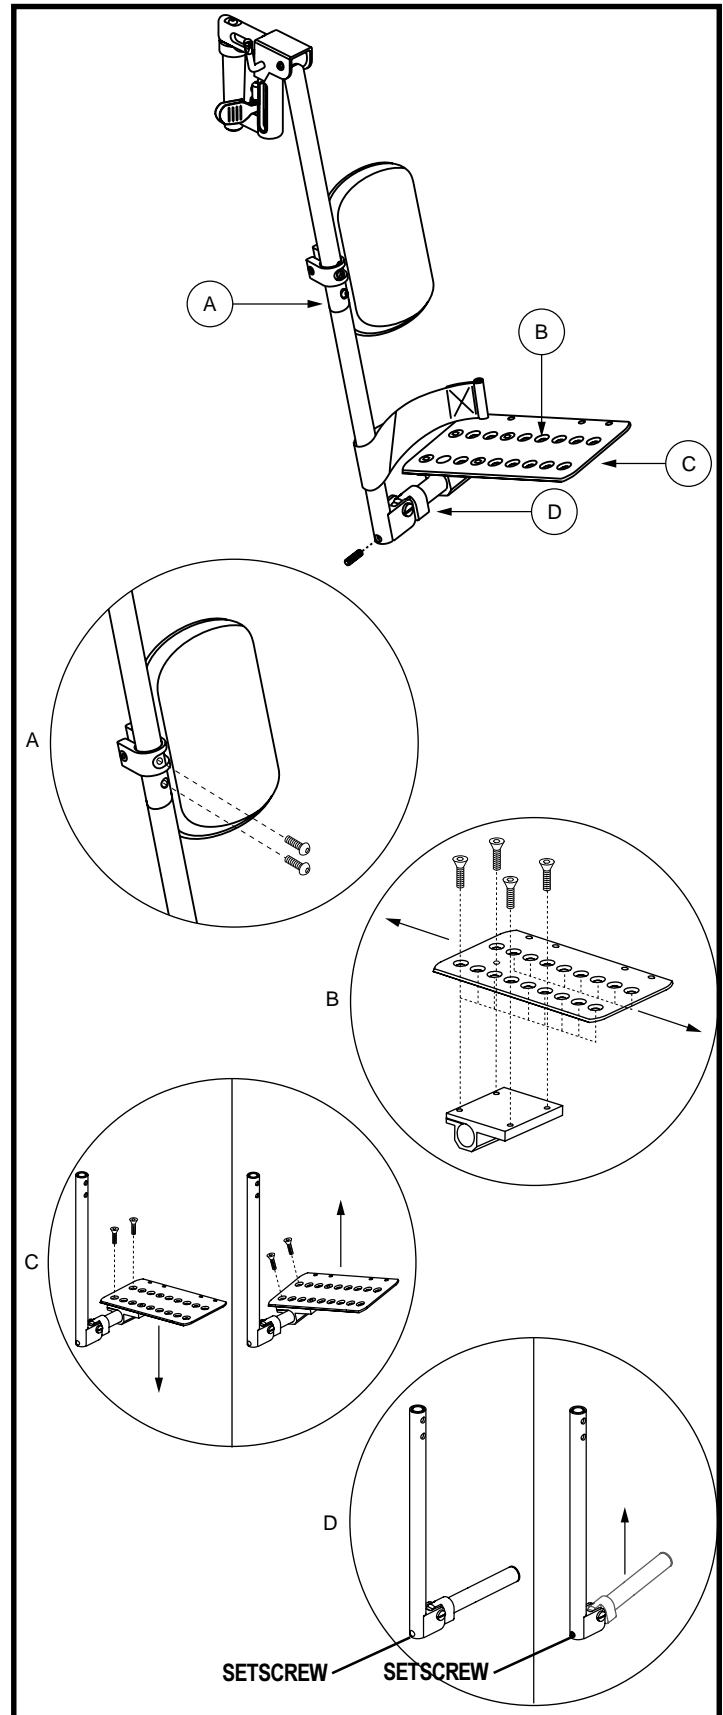

Figure 20. Multi-Axis Foot Plate
The multi-axis foot plate assembly can be installed on either a swing-away footrest or an elevating leg rest. The multi-axis foot plate has four adjustments: leg rest length (A), position (B), tilt (C), and angle (D). See figure 20.